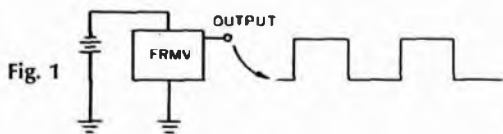

Fig. 3
**Flip Out Forget-me-not.** The third type of multivibrator, the flip-flop, is a forgetful fellow. It, like the one-shot, gives no output pulse unless urged by a trigger pulse. But its response to a trigger is quite different. It starts out to produce a pulse, but forgets to end it, unless told to do so by another trigger pulse. Strangely enough, this forgetfulness can be turned into a memory. The flip-flop is the heart of the register system of large computers. See Fig. 3.